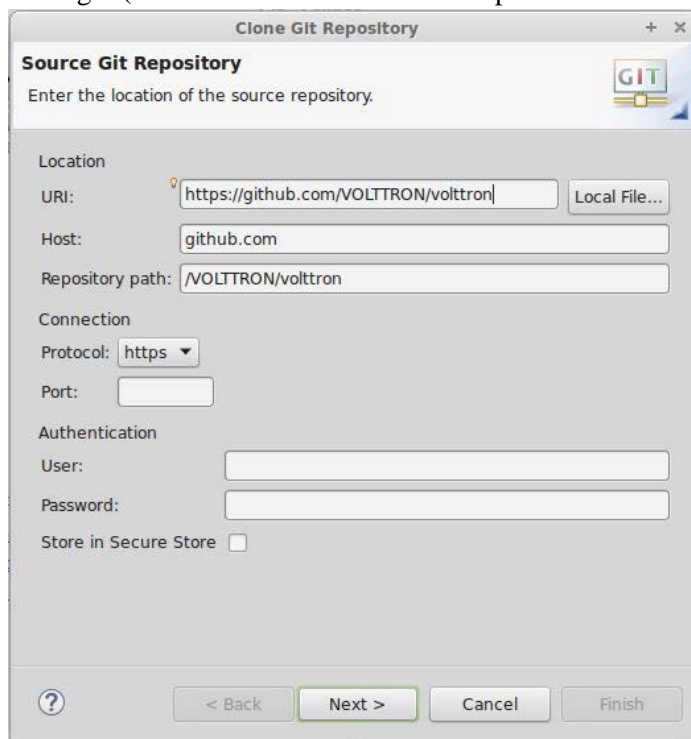

Figure 64: Checking Out VOLTTRON with Eclipse from GitHub (continued)
4. Fill in <https://github.com/VOLTTRON/volttron.git> for the URI, and use your GitHub account login (GitHub account username and password in the User and Password, as shown in Figure 64)